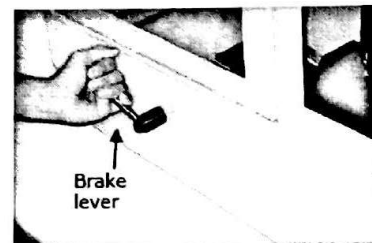

Fig.5.12: Using the brake lever to stop the pendulum.
6. After the specimen breaks and the pendulum complete its initial swing, apply the friction brake to stop the pendulum and open the cabinet as shown in Fig.5.12.